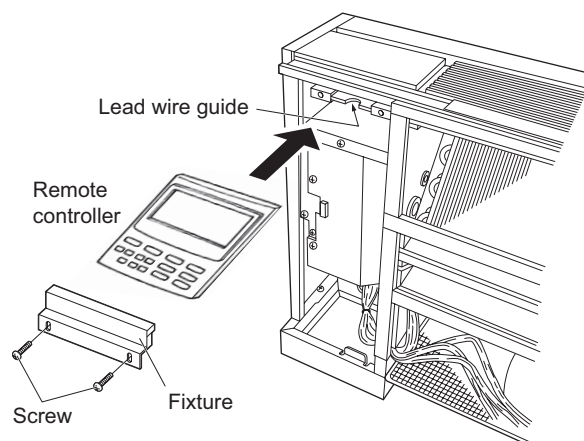

Fig. 2-276
- (2) Remove the front panel. Remove the screws and fixture. (Fig. 2-276)
- (3) Place the remote controller into the space in the unit as shown in Fig. 2-276. Assemble the lead wires of the remote controller to its rear side center and route them to the lead wire guide.
- (4) Secure the fixture using the supplied screws.